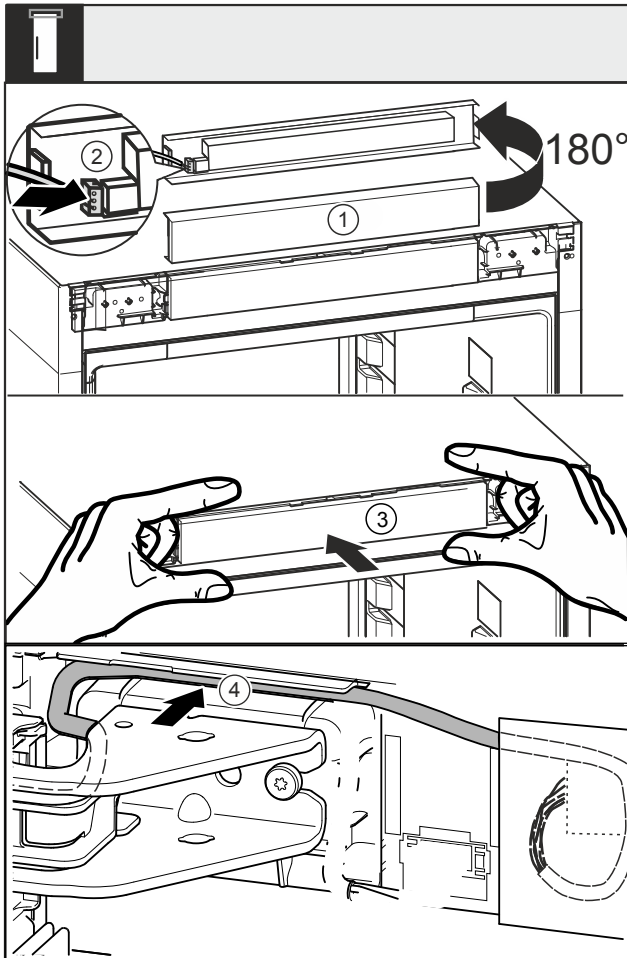

Fig. 46
- Turn the trim Fig. 46 (1) up by 180°.
- Engage the plug Fig. 46 (2) on the control panel trim.
- Re-engage the trim Fig. 46 (3) on the appliance.
- Lay the cable carefully in the guide Fig. 46 (4) above the top swap bearing block.